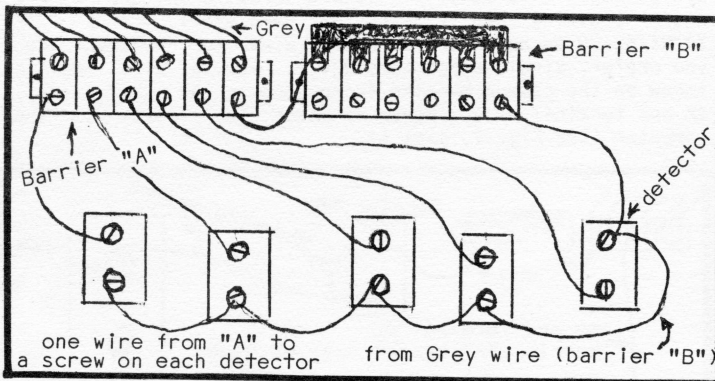

Fig. 3
2) Now you will have to run a wire from each terminal on barrier A, to one terminal on each detector (see Fig. 3). USE OPEN CIRCUIT DETECTORS ONLY-FOR SIMPLIFICATION OF THIS VERSION OF THE CIRCUIT.